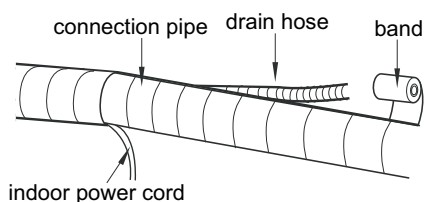

Fig.14
- 2.Reserve a certain length of drain hose and power cord for installation when binding to a certain degree, separate the indoor power and then separate the drain hose.(As show in Fig.14)